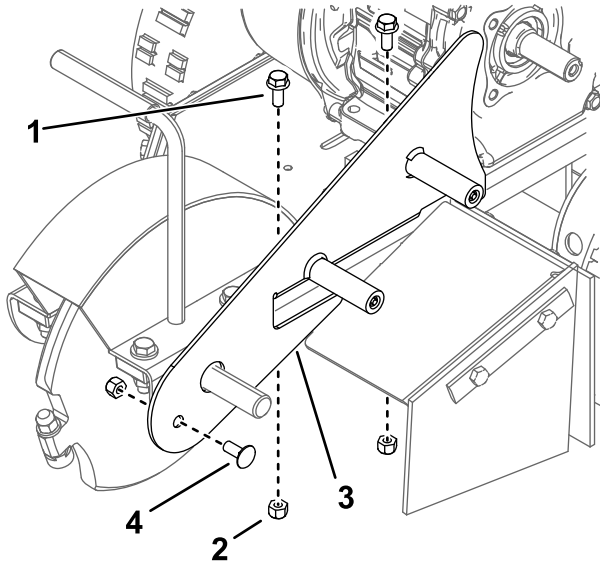

**Figure 7**
1. Slide a bearing assembly onto the shaft on both sides of the cutter wheel and follow the instructions provided with the bearing assemblies (Figure 7).
2. Secure the bearings to the frame of the machine using 4 bolts (3/8 x 1-1/2 inches), 8 washers (0.40 x 0.81 x 0.11 inches), and 4 locknuts (3/8 inch) as shown in Figure 7. Torque to 60 to 76 N·m (44 to 56 ft-lb).